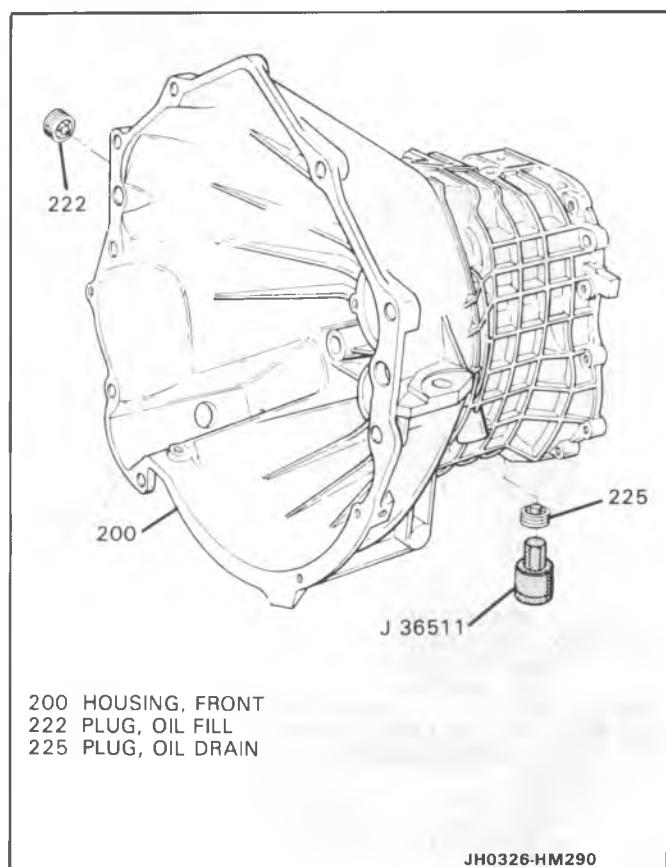

Figure 55 Oil Fill/Drain Plugs Install
14. Breather assembly (223).
15. Oil fill plug (222) and oil drain plug (225), using J 36511 torque drain plug to 60 N·m (46 Lb. Ft.) (Figure 55).
16. Shift shaft/rails plugs (221)